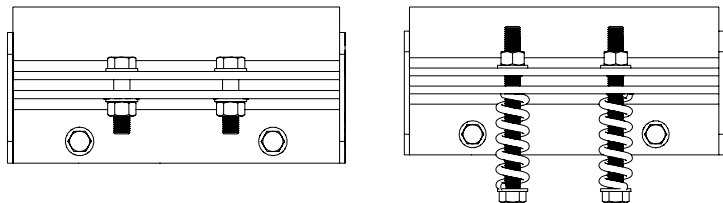

Fig. 2. Tank Mounts (FT4000 mounts shown)
2. Inspect the tank mounts (Fig. 2) weekly to make sure they have not come loose.